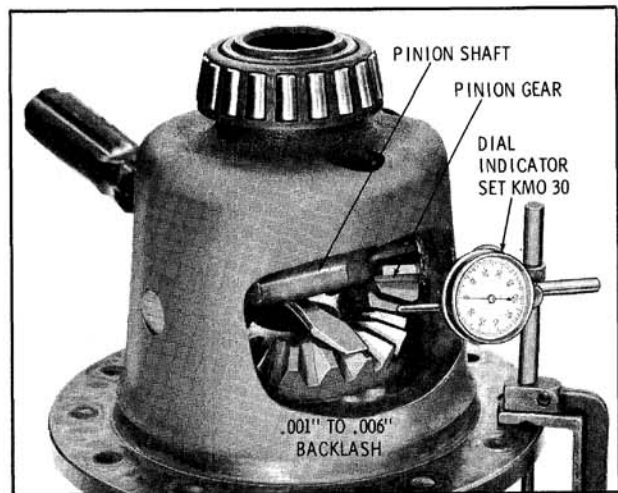

Fig. 10-50 Checking Side Gear To Pinion Backlash
- d. Install Dial Indicator J-8001 with the contact button against the pinion gear. (Fig. 10-50)